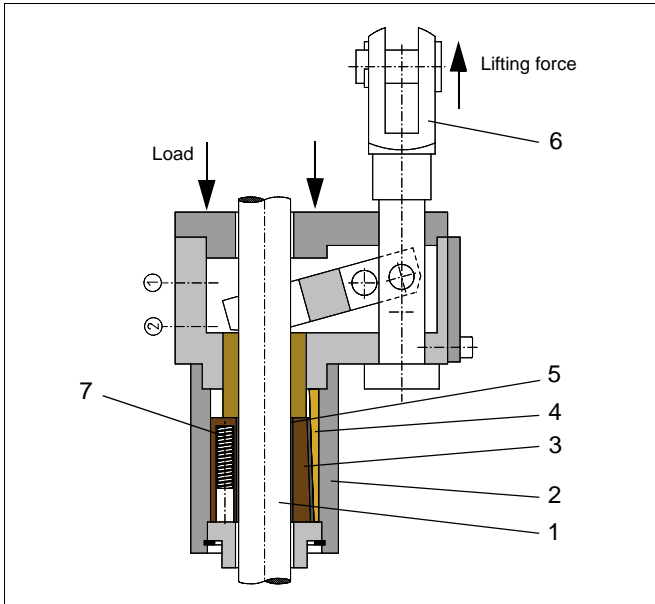

Fig. 2: Safety Catcher KRM (clamping released)
The piston shaft (1) Fig. 2 is surrounded by the housing (2) Fig. 2 in which several wedged clamping jaws (3) Fig. 2, each with one slide lining (4) Fig. 2 and one brake lining (5) Fig. 2, are assembled. The tensile force of the lifting member acting on the anchor bolt (6) Fig. 2 via a lever keeps the clamping jaws released. The springs (7) Fig. 2 are compressed in this position.